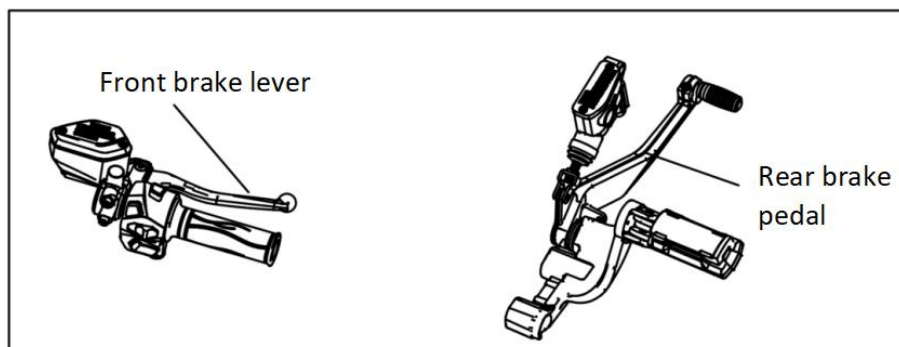

Figure 14
5.4.2 Climbing or Turning Driving (Figure 14)